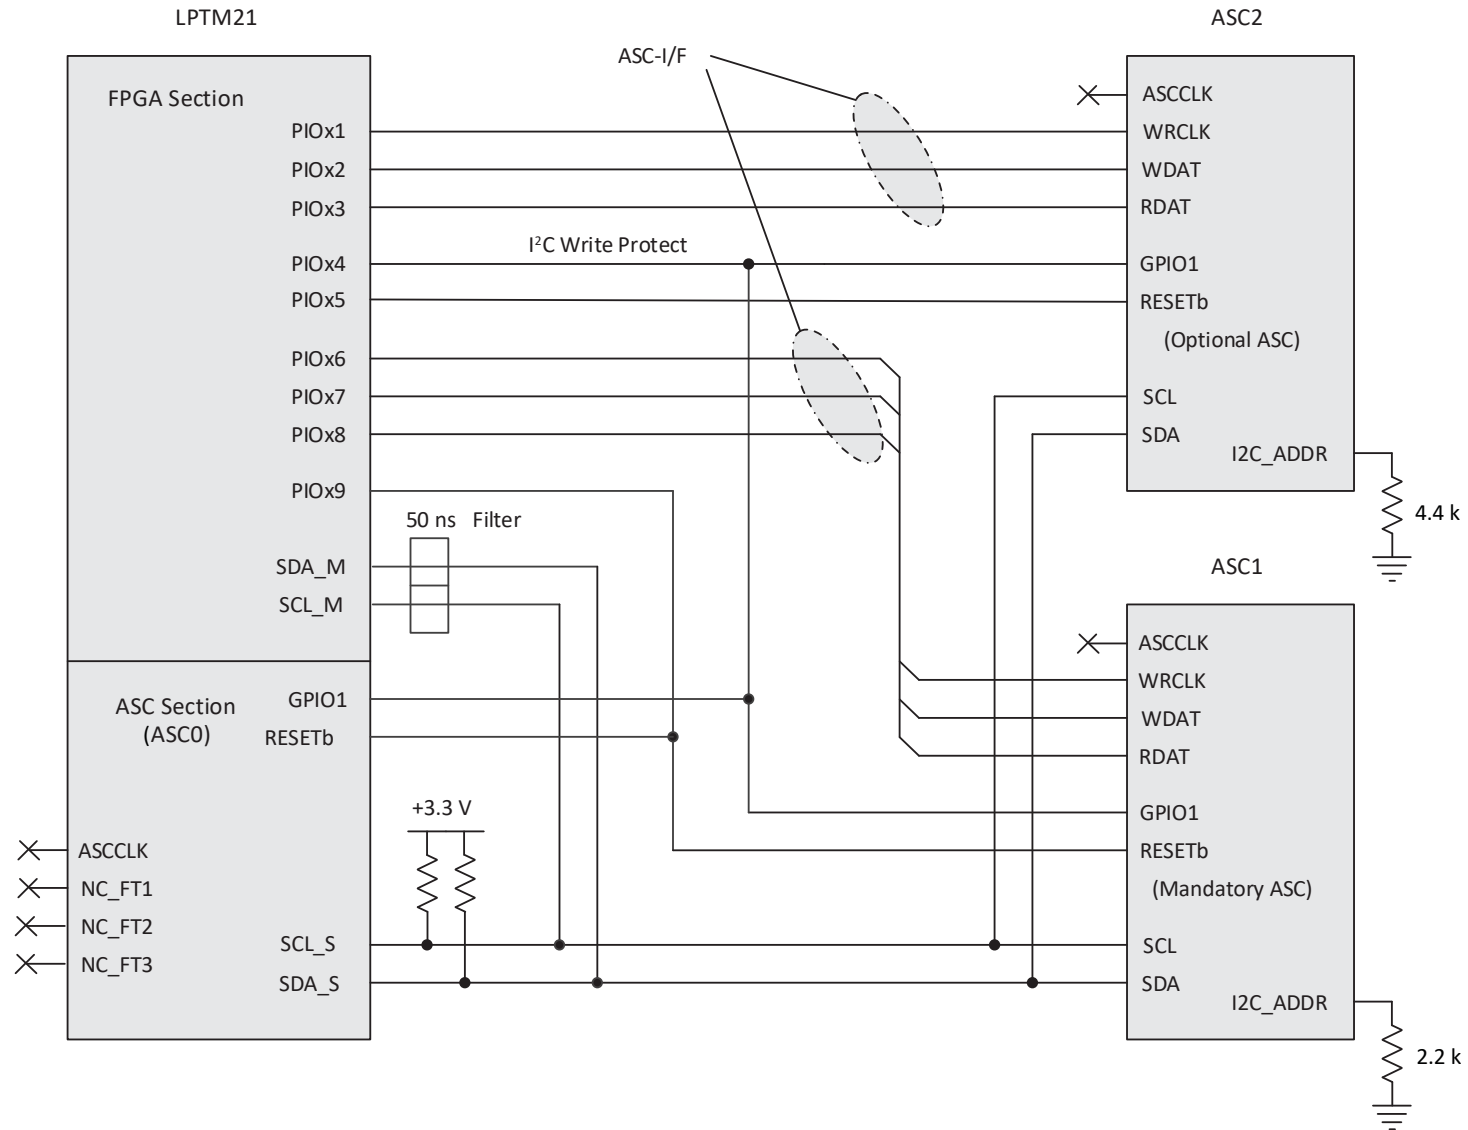
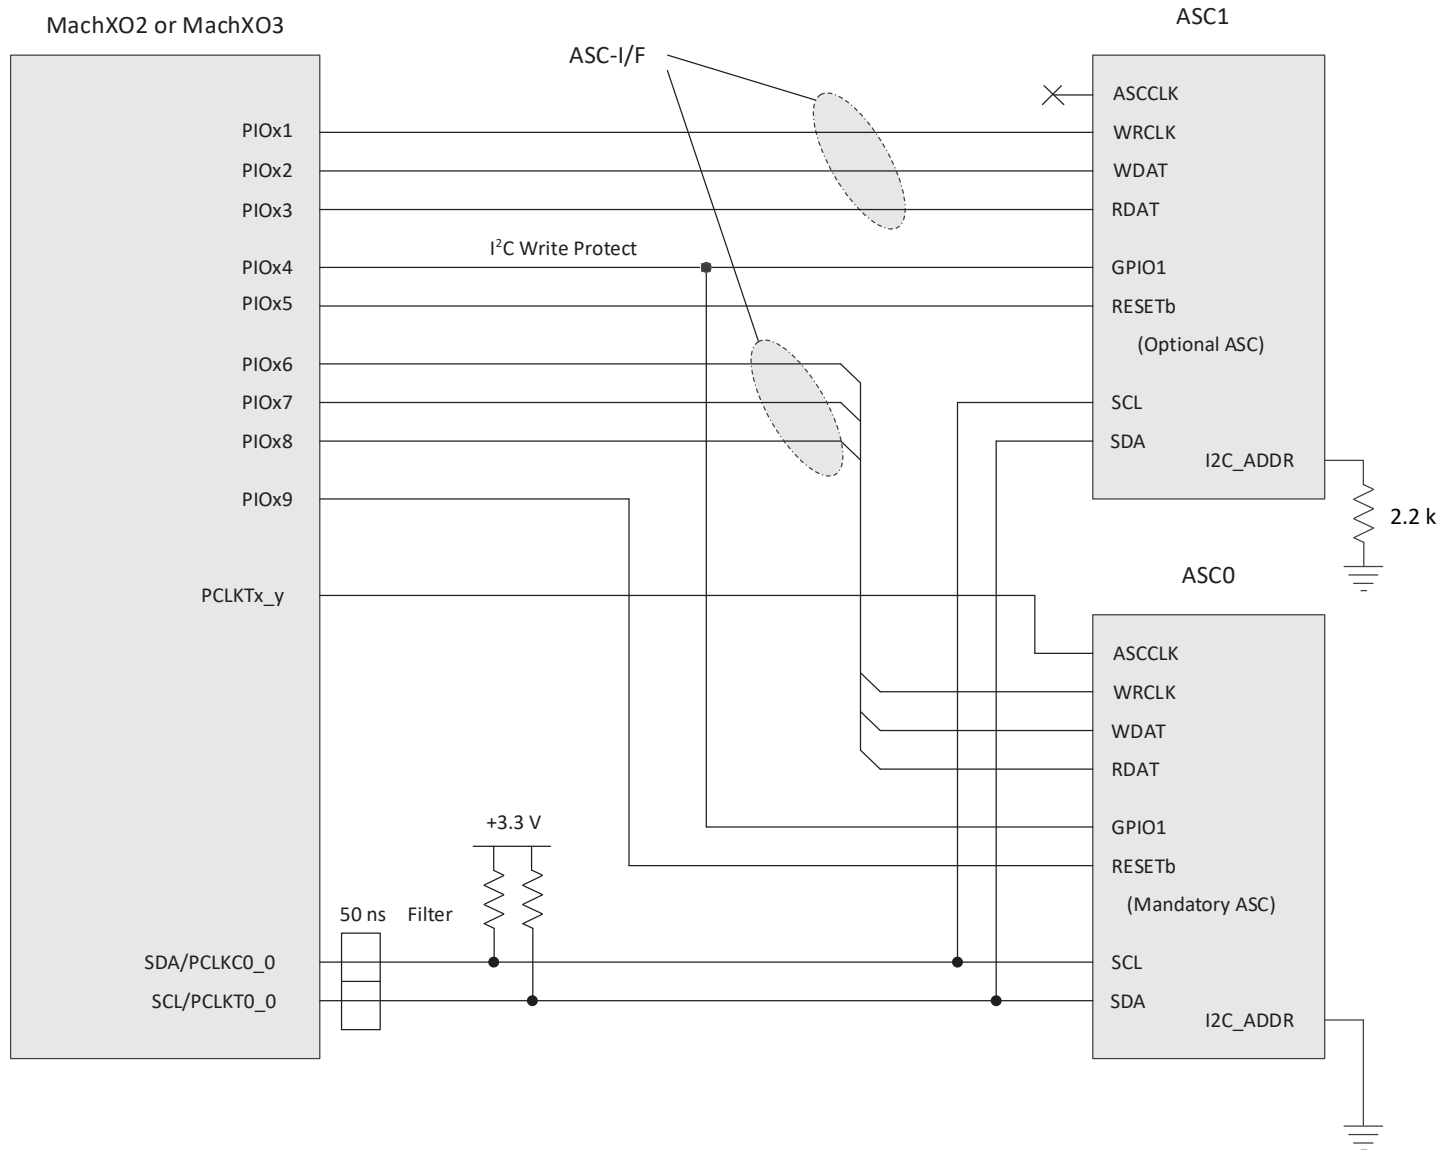
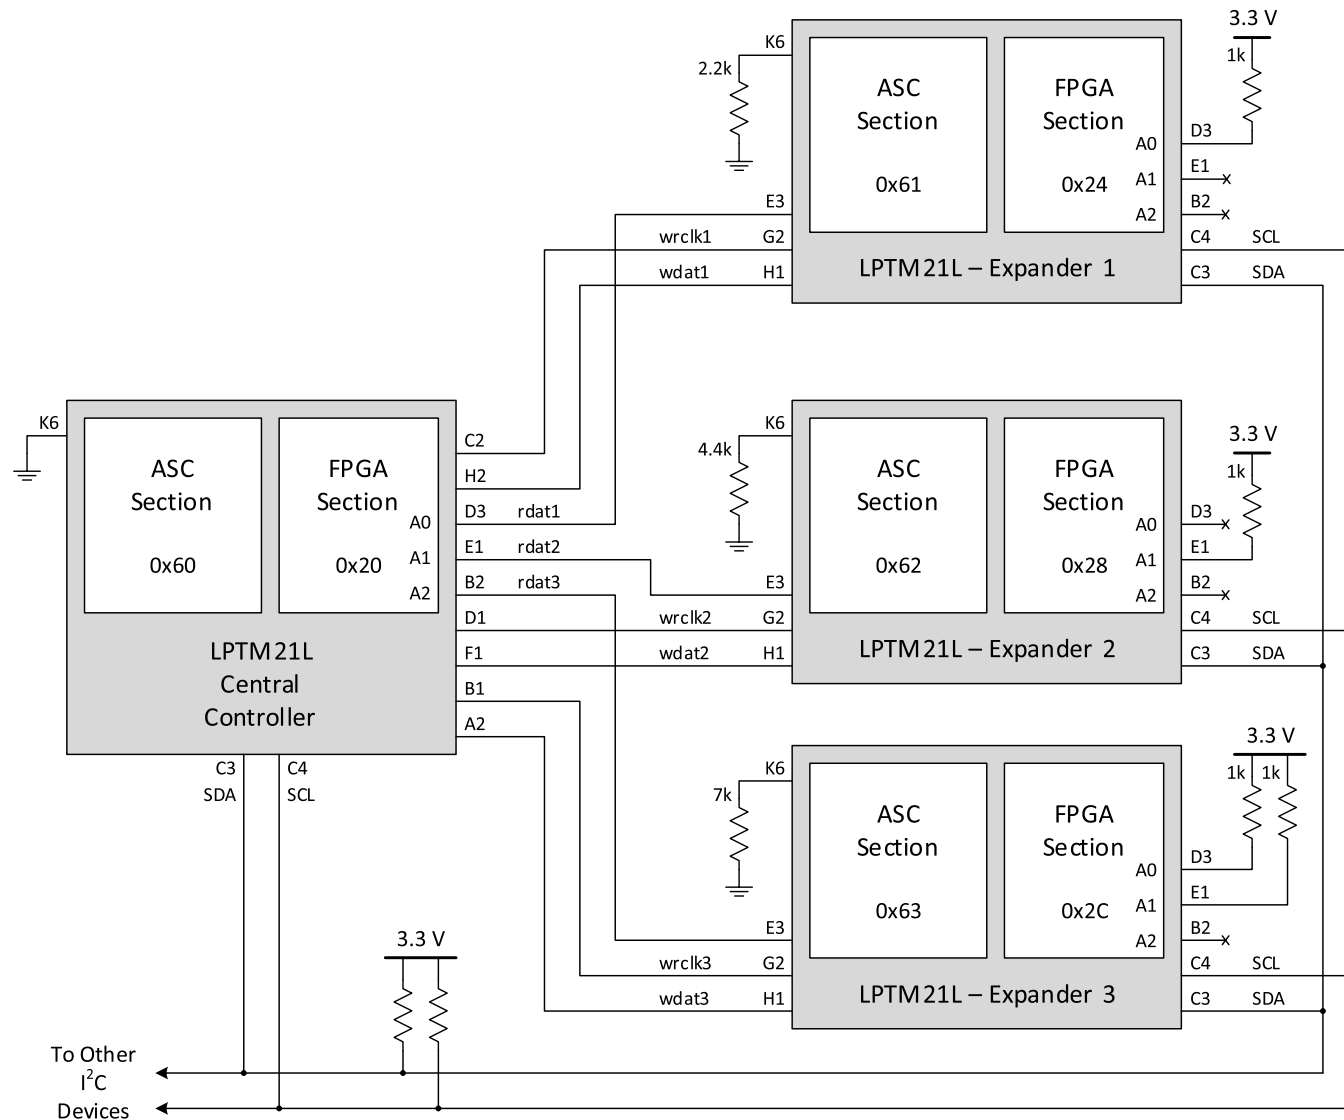

Figure A.1. LPTM21 System Connections Example
Figure A.2. MachXO2 or MachXO3 and ASC System Connections Example
Figure A.3. LPTM21L I²C and ASC-I/F Connections with Three Expander Devices
Figure A.3 shows the required connections for an LPTM21L central controller with three LPTM21L hardware expanders. At power up, the rdat signal from each hardware expander is low so that the FPGA section I²C address of the central controller is set to 0x20 (see Table 6.2). The three hardware expanders use the same three pins (D3, E1, and B2) of each device, with 1 k Ω pull-up resistor used to set the I²C address of their respective FPGA sections. The pins are configured with an internal weak pull-down so that unconnected pins are a logic zero (0).
Appendix A. System Connections Examples	<ul style="list-style-type: none"> Updated Figure A.1. LPTM21 System Connections Example and Figure A.2. MachXO2 or MachXO3 and ASC System Connections Example. Added Figure A.3. LPTM21L I2C and ASC-I/F Connections with Three Expander Devices.
Appendix A	Updated Appendix: System Connections Examples section. Clarified I2C_ADDR pin usage in the following figures: <ul style="list-style-type: none"> Figure A.1., LPTM21 System Connections Example Figure A.2., MachXO2 and ASC System Connections Example Removed the LPTM20 System Connections Example figure.